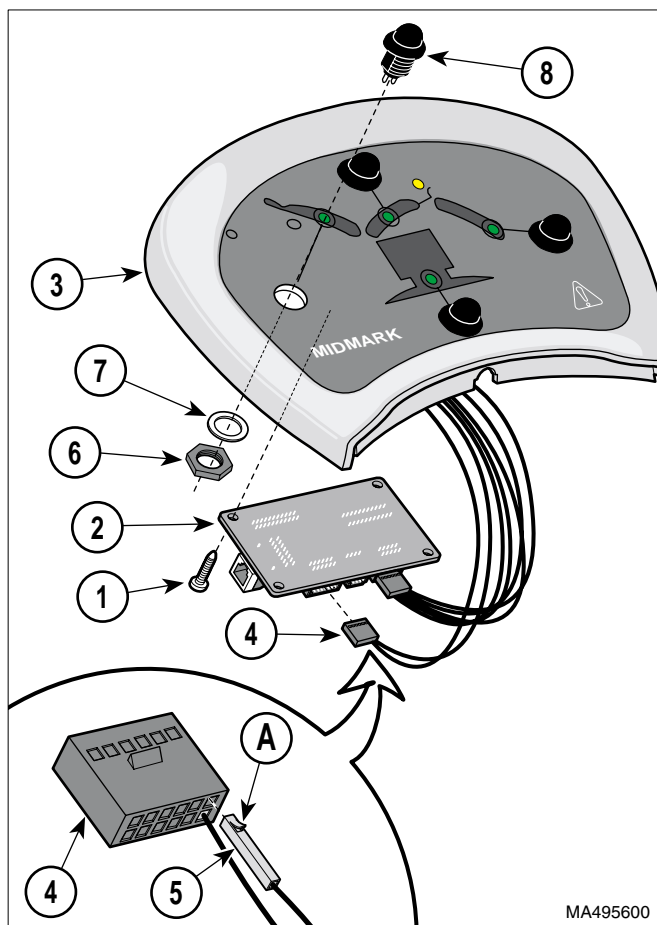

Figure 4-36. Typical Foot Control *Function Button* Switch Removal / Installation.
- (1) Remove foot control top. (Refer to para 4.21 **or** 4.22).
- (2) Remove four screws (1, Figure 4-36) and partially separate PC board (2) from foot control top (3).